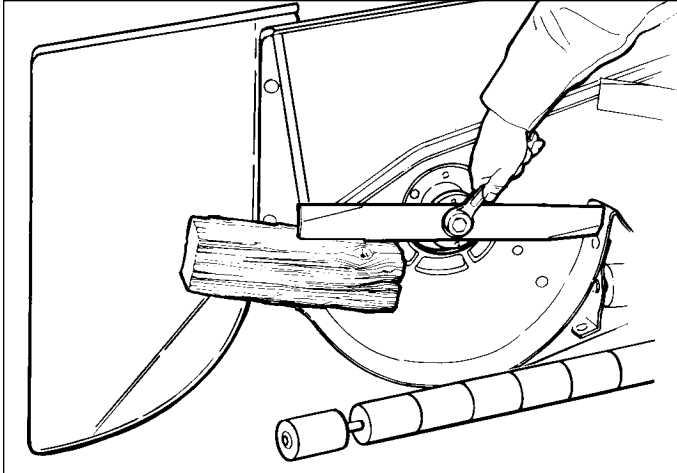

Figure 7. Removing The Blade
3. To remove blade for sharpening, use wooden block to hold blade while removing the blade mounting cap-screw (Figure 7).